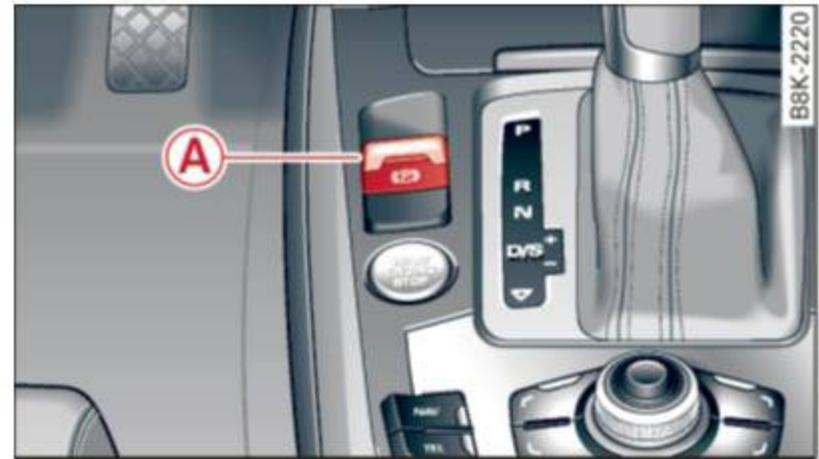

Fig. 98 Center console: Parking brake
- ▶ Pull on the switch **(A)** ⇒ *fig. 98* to apply the parking brake. The indicator light in the switch illuminates.
- ▶ Pull the button  ⇒ *page 85, fig. 98* to set the parking brake.
- ▶ Pull the switch  ⇒ *page 85, fig. 98* to apply the parking brake. ▶
- ▶ Keep the switch  ⇒ page 85, fig. 98 pulled and depress the accelerator. The parking brake stays applied and prevents the vehicle from rolling backward.
- ▶ In an emergency, pull the switch  ⇒ page 85, fig. 98 and continue to pull it to slow your vehicle down with the parking brake.